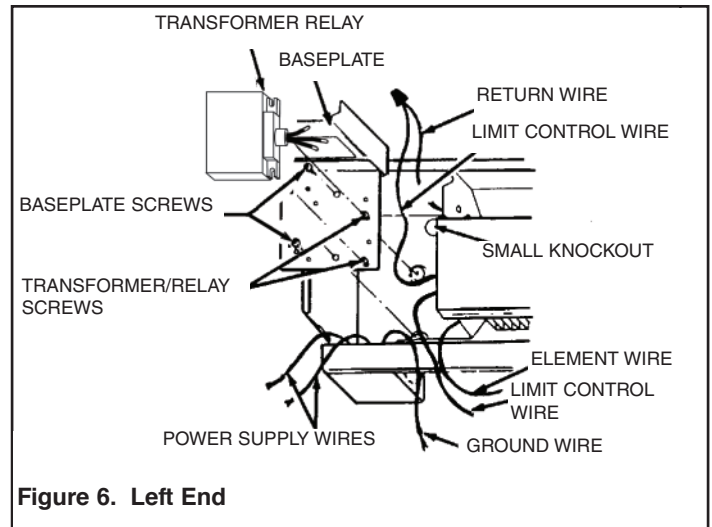

Figure 6. Left End
2. Remove the control box cover where the power supply leads are. Remove small knockout in back of baseboard and make aligning hole in wall (See Figures 6 and 7). Fish thermostat wires through this hole.
3. Loosely install both transfer relay screws. Attach baseplate as shown in Figures 6 or 7.